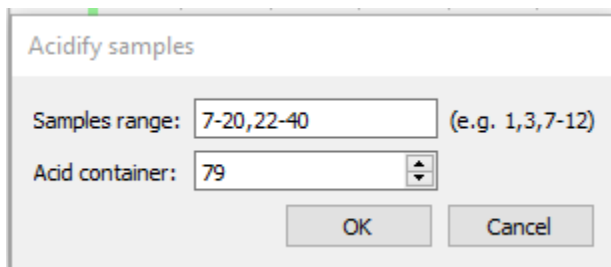

Figure 7: The sample acidification window, with correct numerical formatting for surface water sample acidification.
3.2.7.4.1 From the menu bar, click "System" > "Acidify Samples." See Figure 7 below.